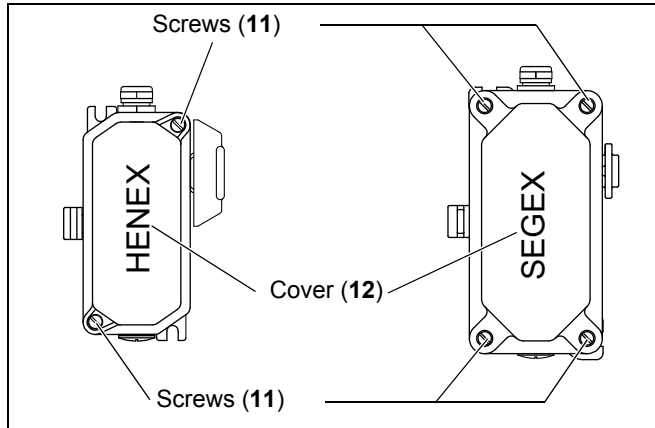

Fig. 5-10: Removing the cover
2. Open the cover (12) of the pull-rope emergency stop switch by releasing the two or four screws (11) (see fig. 5-10).
7. Check the gaskets of the cover (12) for damage.
8. Close the cover (12) of the pull-rope emergency stop switch.
9. Secure the cover (12) with the screws (11) (see fig. 5-10).
4. Open the cover (12) by loosening the screws (11) (see fig. 5-10).
5. Remove the screwed cable gland (17).
6. Disconnect all electrical connections and pull the cables out of the screwed cable gland (17).
7. Unscrew both screws that fasten the pull-rope emergency stop switch to the conveyor system through the slotted holes and remove the device (see fig. 5-10).